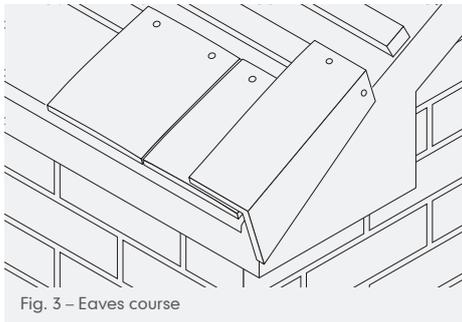

Fig. 3 – Eaves course
- 3 Commence laying an under-eaves course of tiles using a standard eaves tile (Fig. 3, page 167).
- Using a batten end clip, nail the eaves cloak verge tile with 2 No. 38mm x 3.35mm aluminium or stainless steel ring shank nails to both top and end of the tiling batten using the holes in the top and vertical leg (Fig. 3).